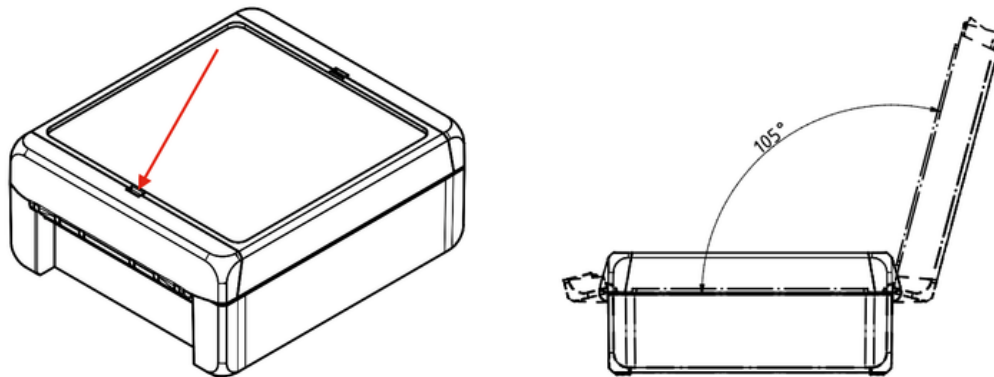

FIG. 6 OPENING THE NETWORK GATEWAY CASE
1. Insert a flat-head screwdriver into the slot (shown by the arrow in Fig. 6) on the top cover of the gateway and move the side cover to the side;
1. Insert a flat-head screwdriver into the slot indicated by the arrow in Fig. 6 and slide the side panel aside.